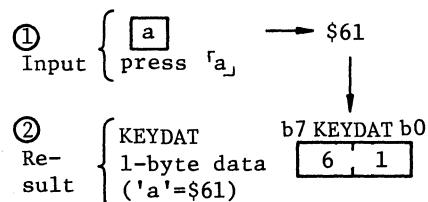

Fig. 11 Example of EXPINP Execution
- (b) Fig. 11 shows an example of program module EXPINP execution. If key "a" in console typewriter is pressed as shown in part ① of Fig. 11, received data is stored in key data buffer as shown in part ② of Fig. 11.
(2) User Notes
(3) RAM Description